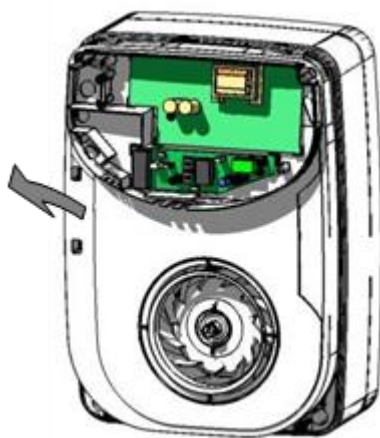
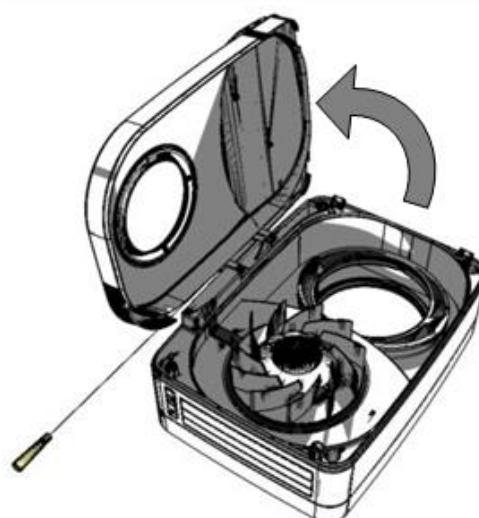

Figure 7
Figure 8
5. Lift where indicated to activate the hinges (Figure 7) then open the door (Figure 8).